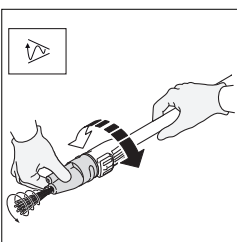

Fig. 8
- When using 3 in1 Nozzle, press nozzle into end of lance and turn clockwise (Fig. 8). Rotate nozzle tip for desired spray pattern. This controls the the power of water needed for each task.